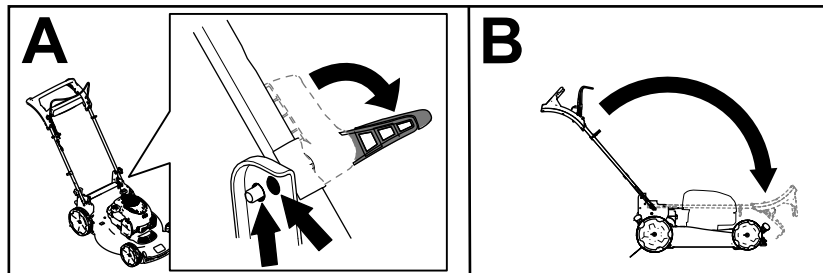

Figure 23
2. Disengage the handle locks until you can move the upper handle freely (A of Figure 23).
3. Fold the handle forward to the fully forward position (B of Figure 23).